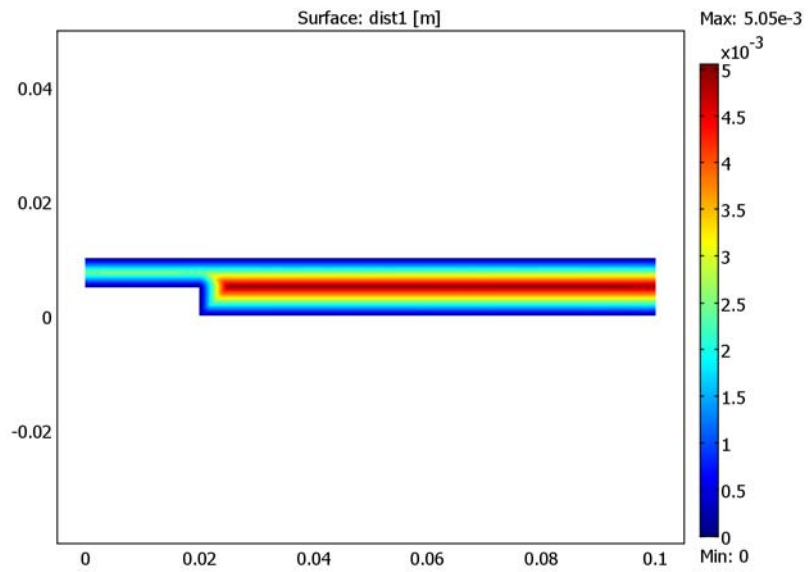

Figure 4-65: Visualization of the distance to the walls in the Backstep model.
- 6 Click **OK** to plot the distance to the wall as a surface plot (see Figure 4-65 on page 297).